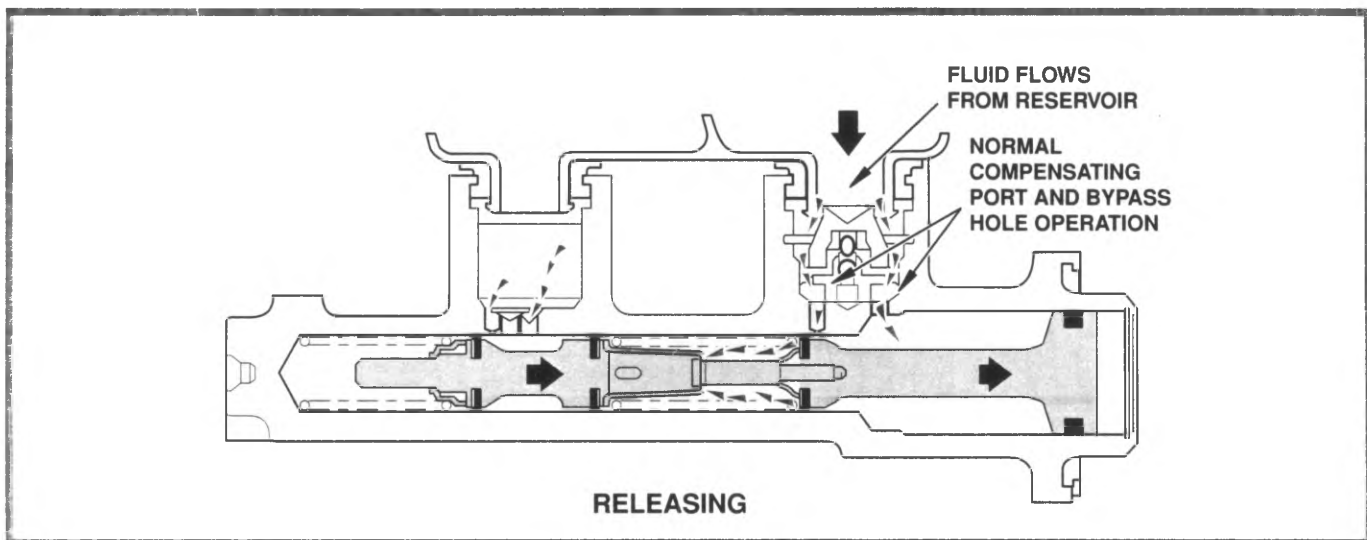

Figure 4-7, **Brake Release**
- On brake release, the quick take-up valve allows the bypass hole and compensating port to operate normally (figure 4-7)